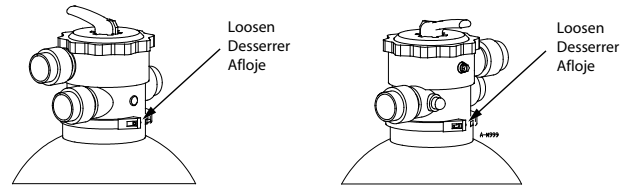

Figure 10
- Loosen both clamp screws and remove the clamp (Figure 10).